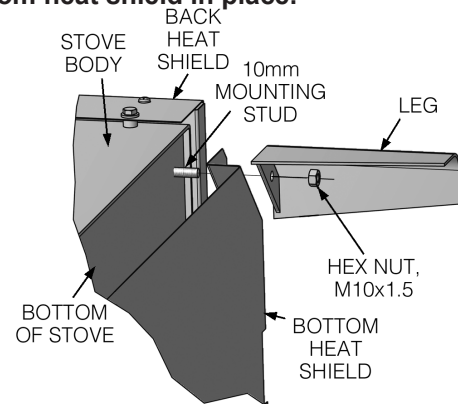
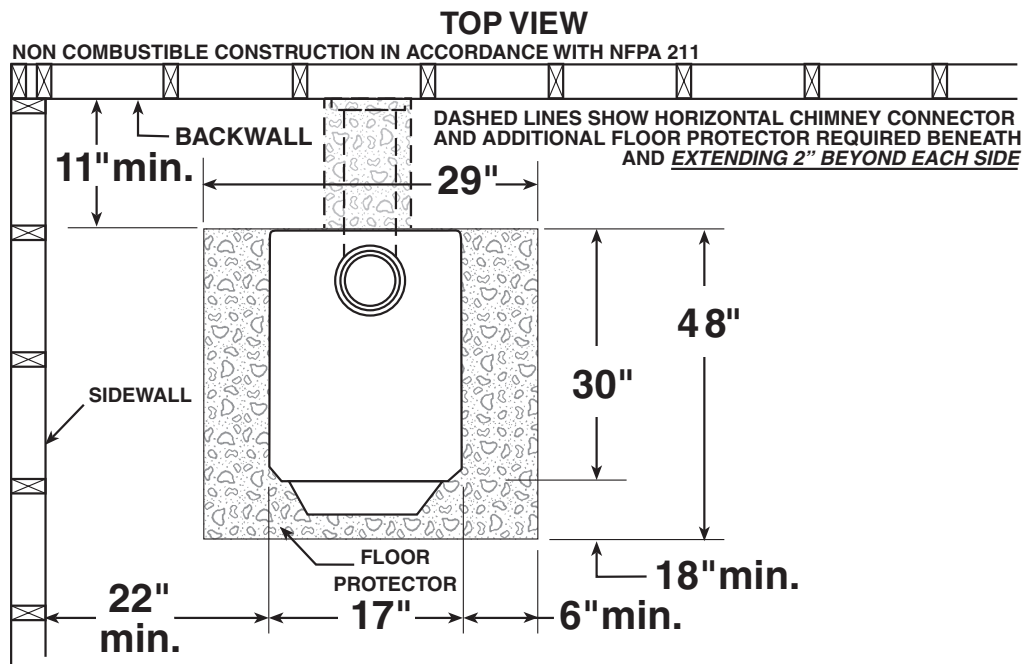

Fig. 1 – LEG ASSEMBLY
Fig. 3 – TOP VIEW Minimum Clearance Dimensions from Combustible Surfaces
5. Position the bottom heat shield, figure 1, aligning the corner holes with the four leg mounting
6. Align each leg with the mounting stud and slide into place. Replace the leg mounting hardware (hex nut, fig. 1) after installing the leg. After all four legs have been installed, tighten all mounting hardware.
11. After properly locating floor protector (fig 3) to accommodate minimum stove clearances, place stove in position on floor protector.
beyond either side of the stove pipe if it is elbowed towards a wall. (See figures 3 & 5 and consult local building codes and fire protection ordinances). A grouted ceramic floor tile installed per local building code is considered a durable equivalent.
CAUTION: (FIRE HAZARD) CARPETING AND OTHER COMBUSTIBLE MATERIAL SHALL NOT COVER THE FLOOR PROTECTOR. THESE MATERIALS MUST REMAIN OUTSIDE OF COMBUSTIBLE CLEARANCES, SEE FIG. 3 – 5.
3. After observing the clearances to combustible materials (figures 3–5), locate your floor protector accordingly (figure 1) and carefully place the stove in your selected location. Install stove pipe, elbows, and thimble as required, utilizing either a recently cleaned and inspected 6" masonry chimney or a 6" i.d. listed type HT chimney.
4. Use 6" round black stove pipe, not galvanized stove pipe. Secure each pipe section with three (3) sheet metal screws in each stove pipe and/or elbow joint to firmly hold the pipe sections together. **DO NOT CONNECT THIS STOVE TO ANY AIR DISTRIBUTION OR DUCT SYSTEM.**
5. Recheck clearances from the stove, connector stove pipe, and corner clearances using the illustrations in figures 3–5 and your local building codes or fire protection ordinances.